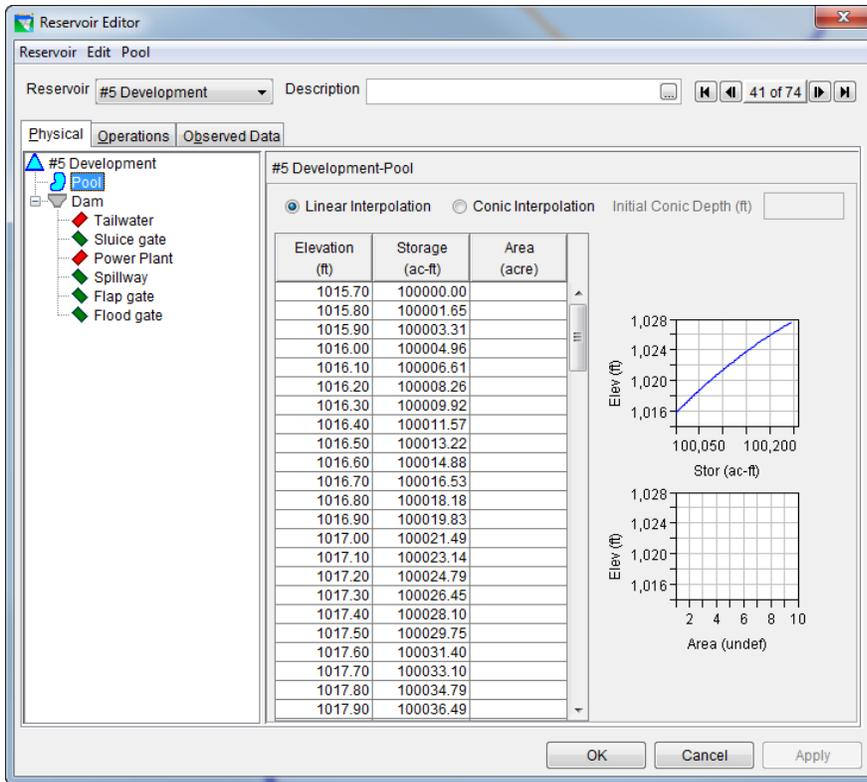
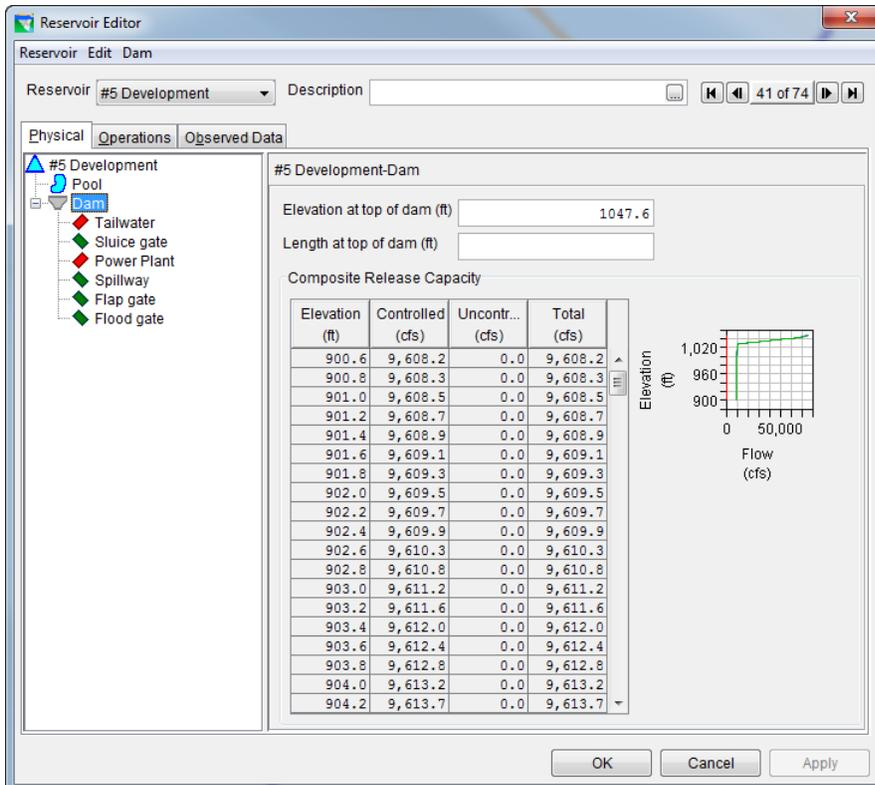

Figure 3: Reservoir Editor: Physical Tab -- Pool
Figure 4: Reservoir Editor: Physical Tab -- Dam
The physical characteristics of the reservoir are separated between the Pool and the Dam in the HEC-ResSim model. The elevation-storage-area defines the pool as shown in Figure 334. The dam consists of five types of outlets: (1) controlled sluice gate, (2) controlled spillway, (3) controlled Flap gate, (4) controlled flood gate, and (5) power plant as shown in Figure 4.